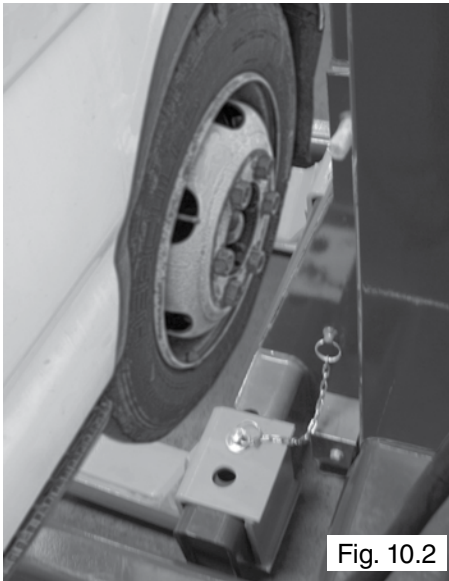

Fig. 10.2
5. Using the Hydraulic Jacking System, position each Column so that the forks of the lift are positioned properly around each of the vehicles wheels. The wheels should be centered between the forks. (See Fig 10.2)